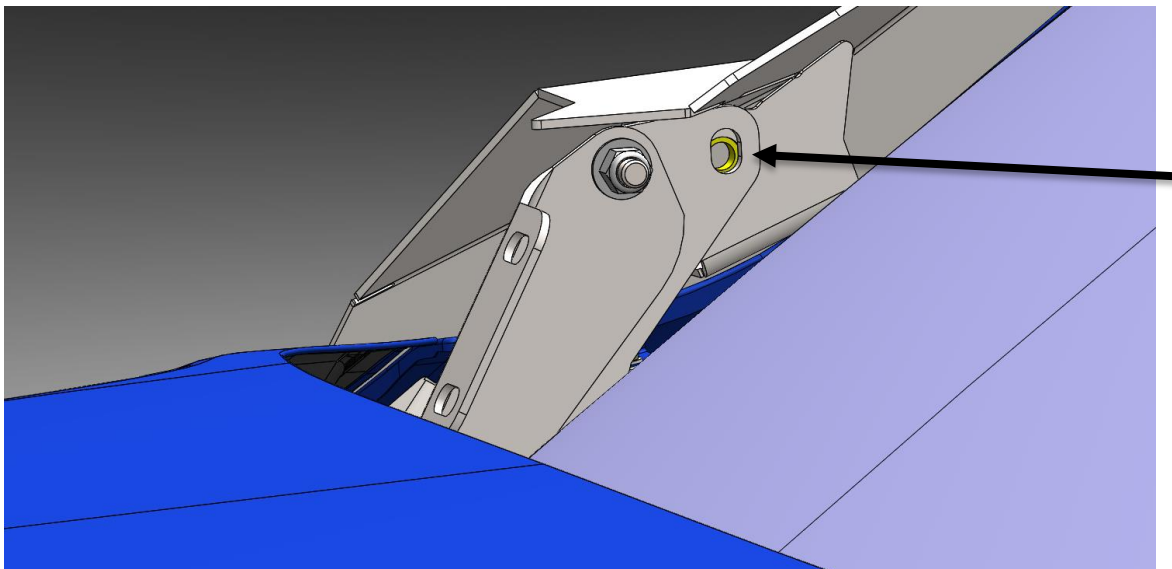

Fig 14
- a. With a friend on the other arm, lift the upper ViCowl assembly up over the hood and behind the radio antenna and slowly lower the arms into position. The arm mounting bracket rest to the outside of the lower hinge and lined up with the rear bolt hole as shown in **Fig 14**.
Note: the slot in the bracket is for ease of installation of the bolt only. The bolt should be seated at the bottom of the slot when fully tightened. Failure to do so could result in a smaller gap between the arm and cowl when installation is complete. Fig 14 shows the projection nut at bottom of slot as it should be.